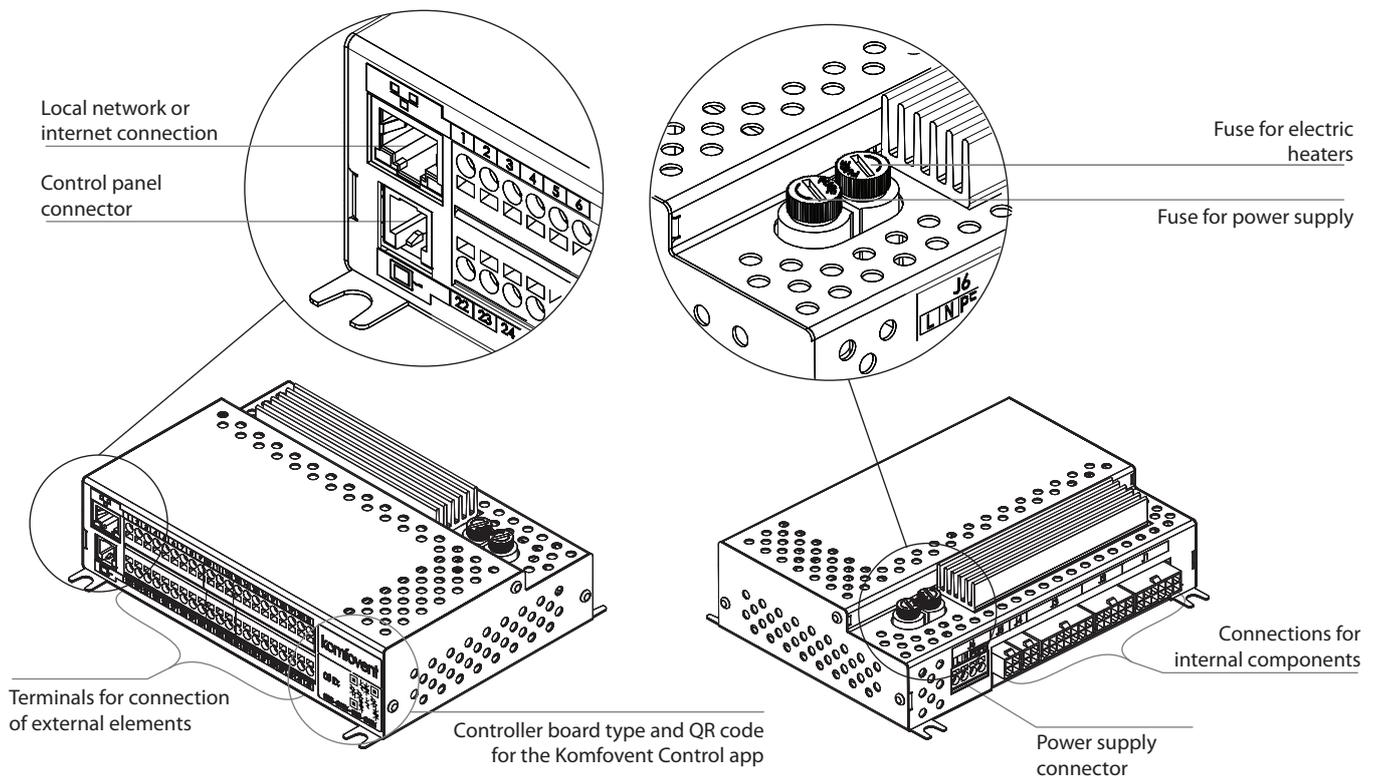

Fig. 12. C6M controller main board
- The terminal numbering shown here only applies for C6M controller board. Before connecting the external elements, check the board type on the sticker in the front of the controller (see Fig. 12).
It is advisable to run the control panel cable in such a way that it does not go near the power supply wires or high voltage electrical equipment (electrical inlet cabinets, electric water heating boiler, air conditioning unit, etc.). The cable can be passed through the holes in the back or bottom of the control panel (follow the installation instructions supplied with the control panel). The wire to C6M controller board is connected to a dedicated slot (RJ9 connector; see Fig. 12) or to the terminals for external connections.
The unit can be controlled not only by the control panel, but also by computer or smart phone. In such cases, the air handling unit must be connected to a local computer network or to the Internet. The unit is controlled by a computer using a web browser, or a smartphone with a Komfovent Home or Komfovent Control app. The air handling unit is connected to the computer network with a CAT5 type cable (RJ45 connector; see Fig. 12). The total cable length between the unit and the network router must not exceed 100 m.
- The easiest way to manage your unit over the internet is to use a smartphone with the Komfovent Control app. Launch the app on your phone (the phone must have Internet access). When you connect for the first time, the app will ask you to scan the QR code at the front of the controller board (see Fig. 12). When you scan the code, the app will automatically establish the connection to the unit (for more information on the Komfovent Control app, see "Domekt User Guide").